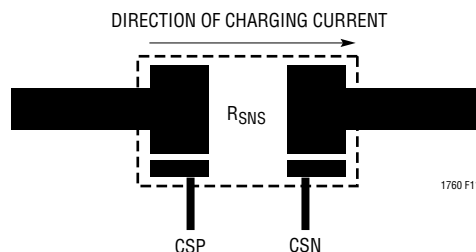

Figure 12. Kelvin Sensing of Charging Current
12. For best current programming accuracy provide a Kelvin connection from  $R_{\text{SENSE}}$  to CSP and BAT. See Figure 12 as an example.